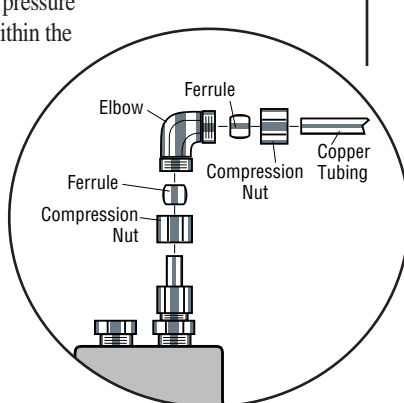

Fig. 1 Typical Installation for Below Ground Tank
2. From tank top to the DLA100 location, route a 1/4 in. (6 mm) dia. copper tube within a 1 in. (25 mm) dia. conduit. The customer is to supply the copper tube and the conduit. Caution must be exercised when routing copper tubing through conduit to avoid damaging the tube. Refer to Fig. 1 and Fig. 2.